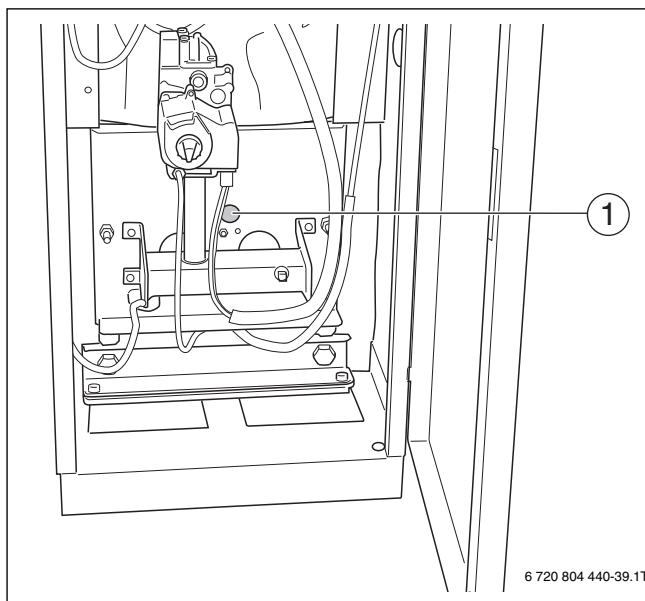

Fig. 31 GC 144 II
- ▶ Observe the ignition burner through the sight glass window (→ figure 31).